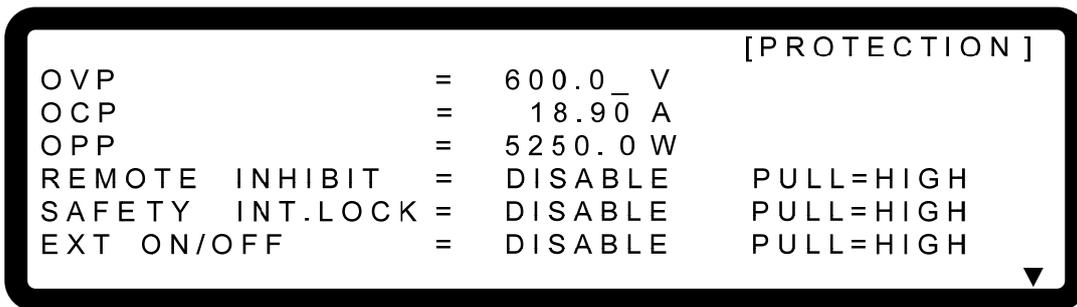

Figure 3-63
- In Config Setup page, press “ ” and “ ” to enter into PROTECTION selection page as Figure 3-63 shows.